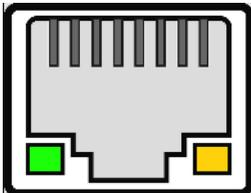

Fig. 19
2. Connect the cable to the ethernet ports on both devices(see Fig. 19).